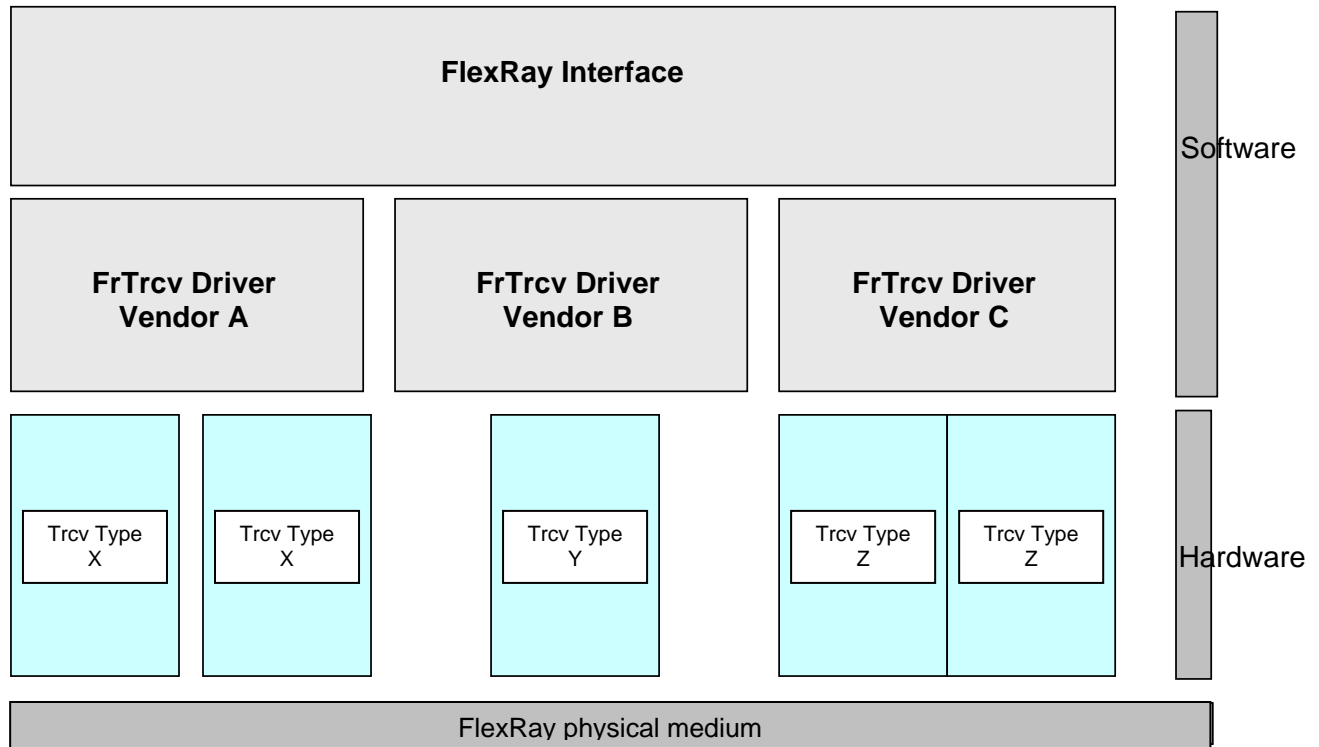

Figure 1: Description of the basic structure of the FlexRay Stack
Figure 1 depicts the basic structure of the FlexRay stack. One FlexRay Interface accesses several FlexRay Transceivers (Trcv Type X .. Z) using one or several FlexRay Transceiver Driver(s) (FrTrcv Driver Vendor A...C) from different vendors.
E.g. Node A of FlexRay transceiver type Z is addressed by the index 0, node B by the index 1 in the example in Figure 1.